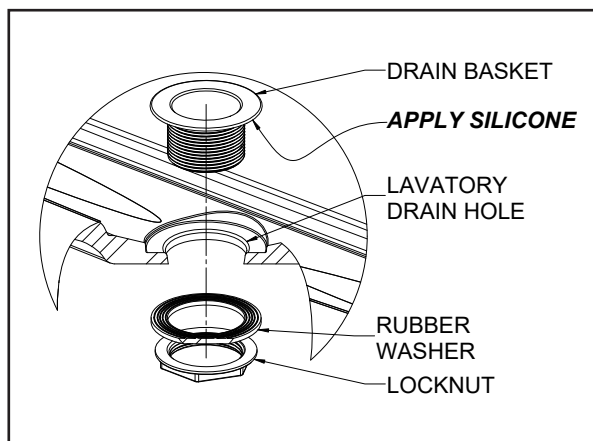

FIG. 1 - DRAIN INSTALLATION
2. Apply a small strand of silicone caulk on the underside of the Drain Basket lip (**SEE FIG. 1**).